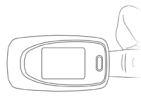

Figure 5. Put finger in position
- The finger should be placed correctly (see Attached figure 5), as improper assembly or improper contact position for sensor will influence the measurement.
5.2 Open the clip as shown in Figure 5.